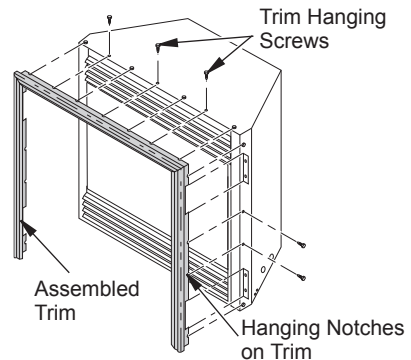

Figure 7 - Attaching Perimeter Trim to Fireplace
8. Tighten trim hanging screws (#10 x 6.25 shoulder) into holes in cabinets. Place the assembled trim onto fireplace cabinet. Align hanging notches on trim with hanging screws on side of fireplace (see Figure 7). Push trim firmly into place, sliding hanging notches over hanging screws.